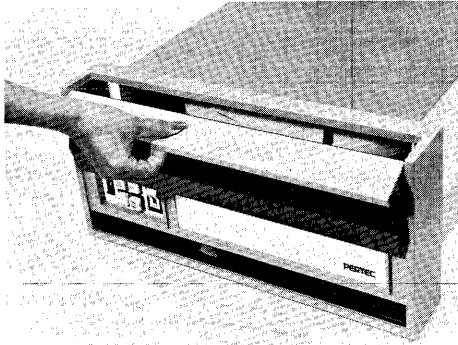

Figure 3-1. Cartridge Loading/Unloading, Front Load Models
Refer to Figures 3-1 through 3-3 in conjunction with the following procedure.
- (1) Verify that the SAFE indicator is illuminated as described in Paragraph 3.3.
- (2) Referring to Figure 3-1, grip the handle formed by the top of the front bezel and move the handle out and downward; this will open the drive door and cam the cartridge receiver into position to accept a cartridge.
Refer to Figures 3-1 and 3-2 in conjunction with the following procedure.
- (2) Referring to Figure 3-1, grip the door handle formed by the top of the front bezel and move the handle out and downward, opening the door.